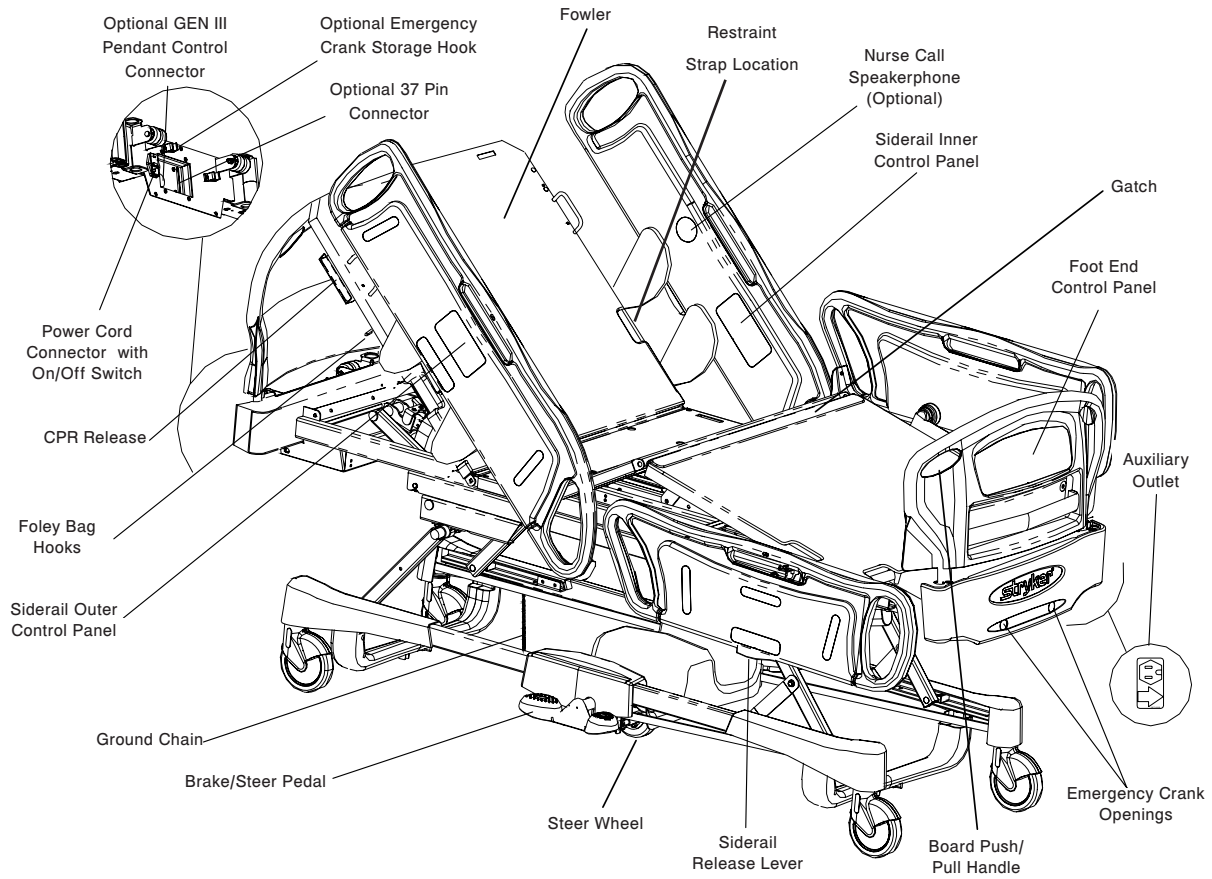

Figure 1.9
- Make sure that the ground chain is in place, intact and it's touching the floor (see Figure 1.9, page 1-8).